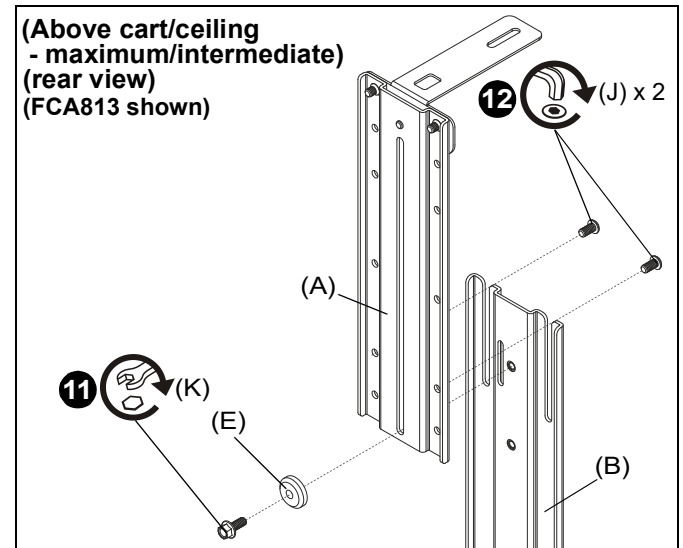
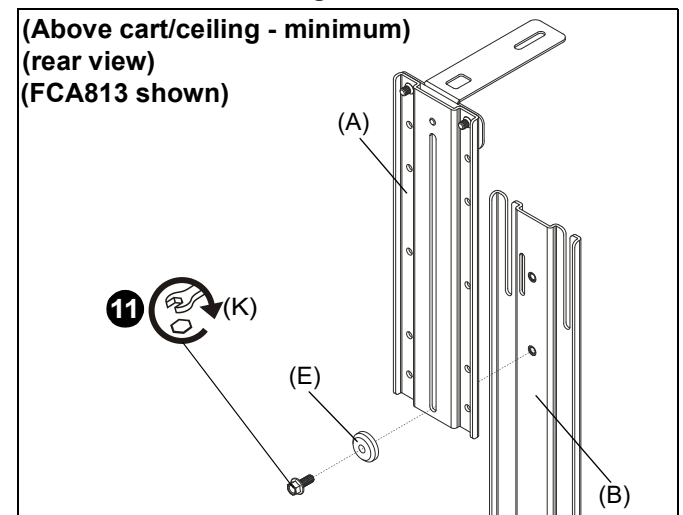

Figure 20
Figure 21
11. Use 1/4-20 x 5/8" hex head flange bolt (K) and center washer (E) to secure upright bracket (A) to main bracket (B). (See Figure 20) or (See Figure 21)
12. (For maximum/intermediate extension ONLY) Use two 1/4-20 x 1/2" button head cap screws (J) to secure upright bracket (A) to main bracket (B). (See Figure 20)